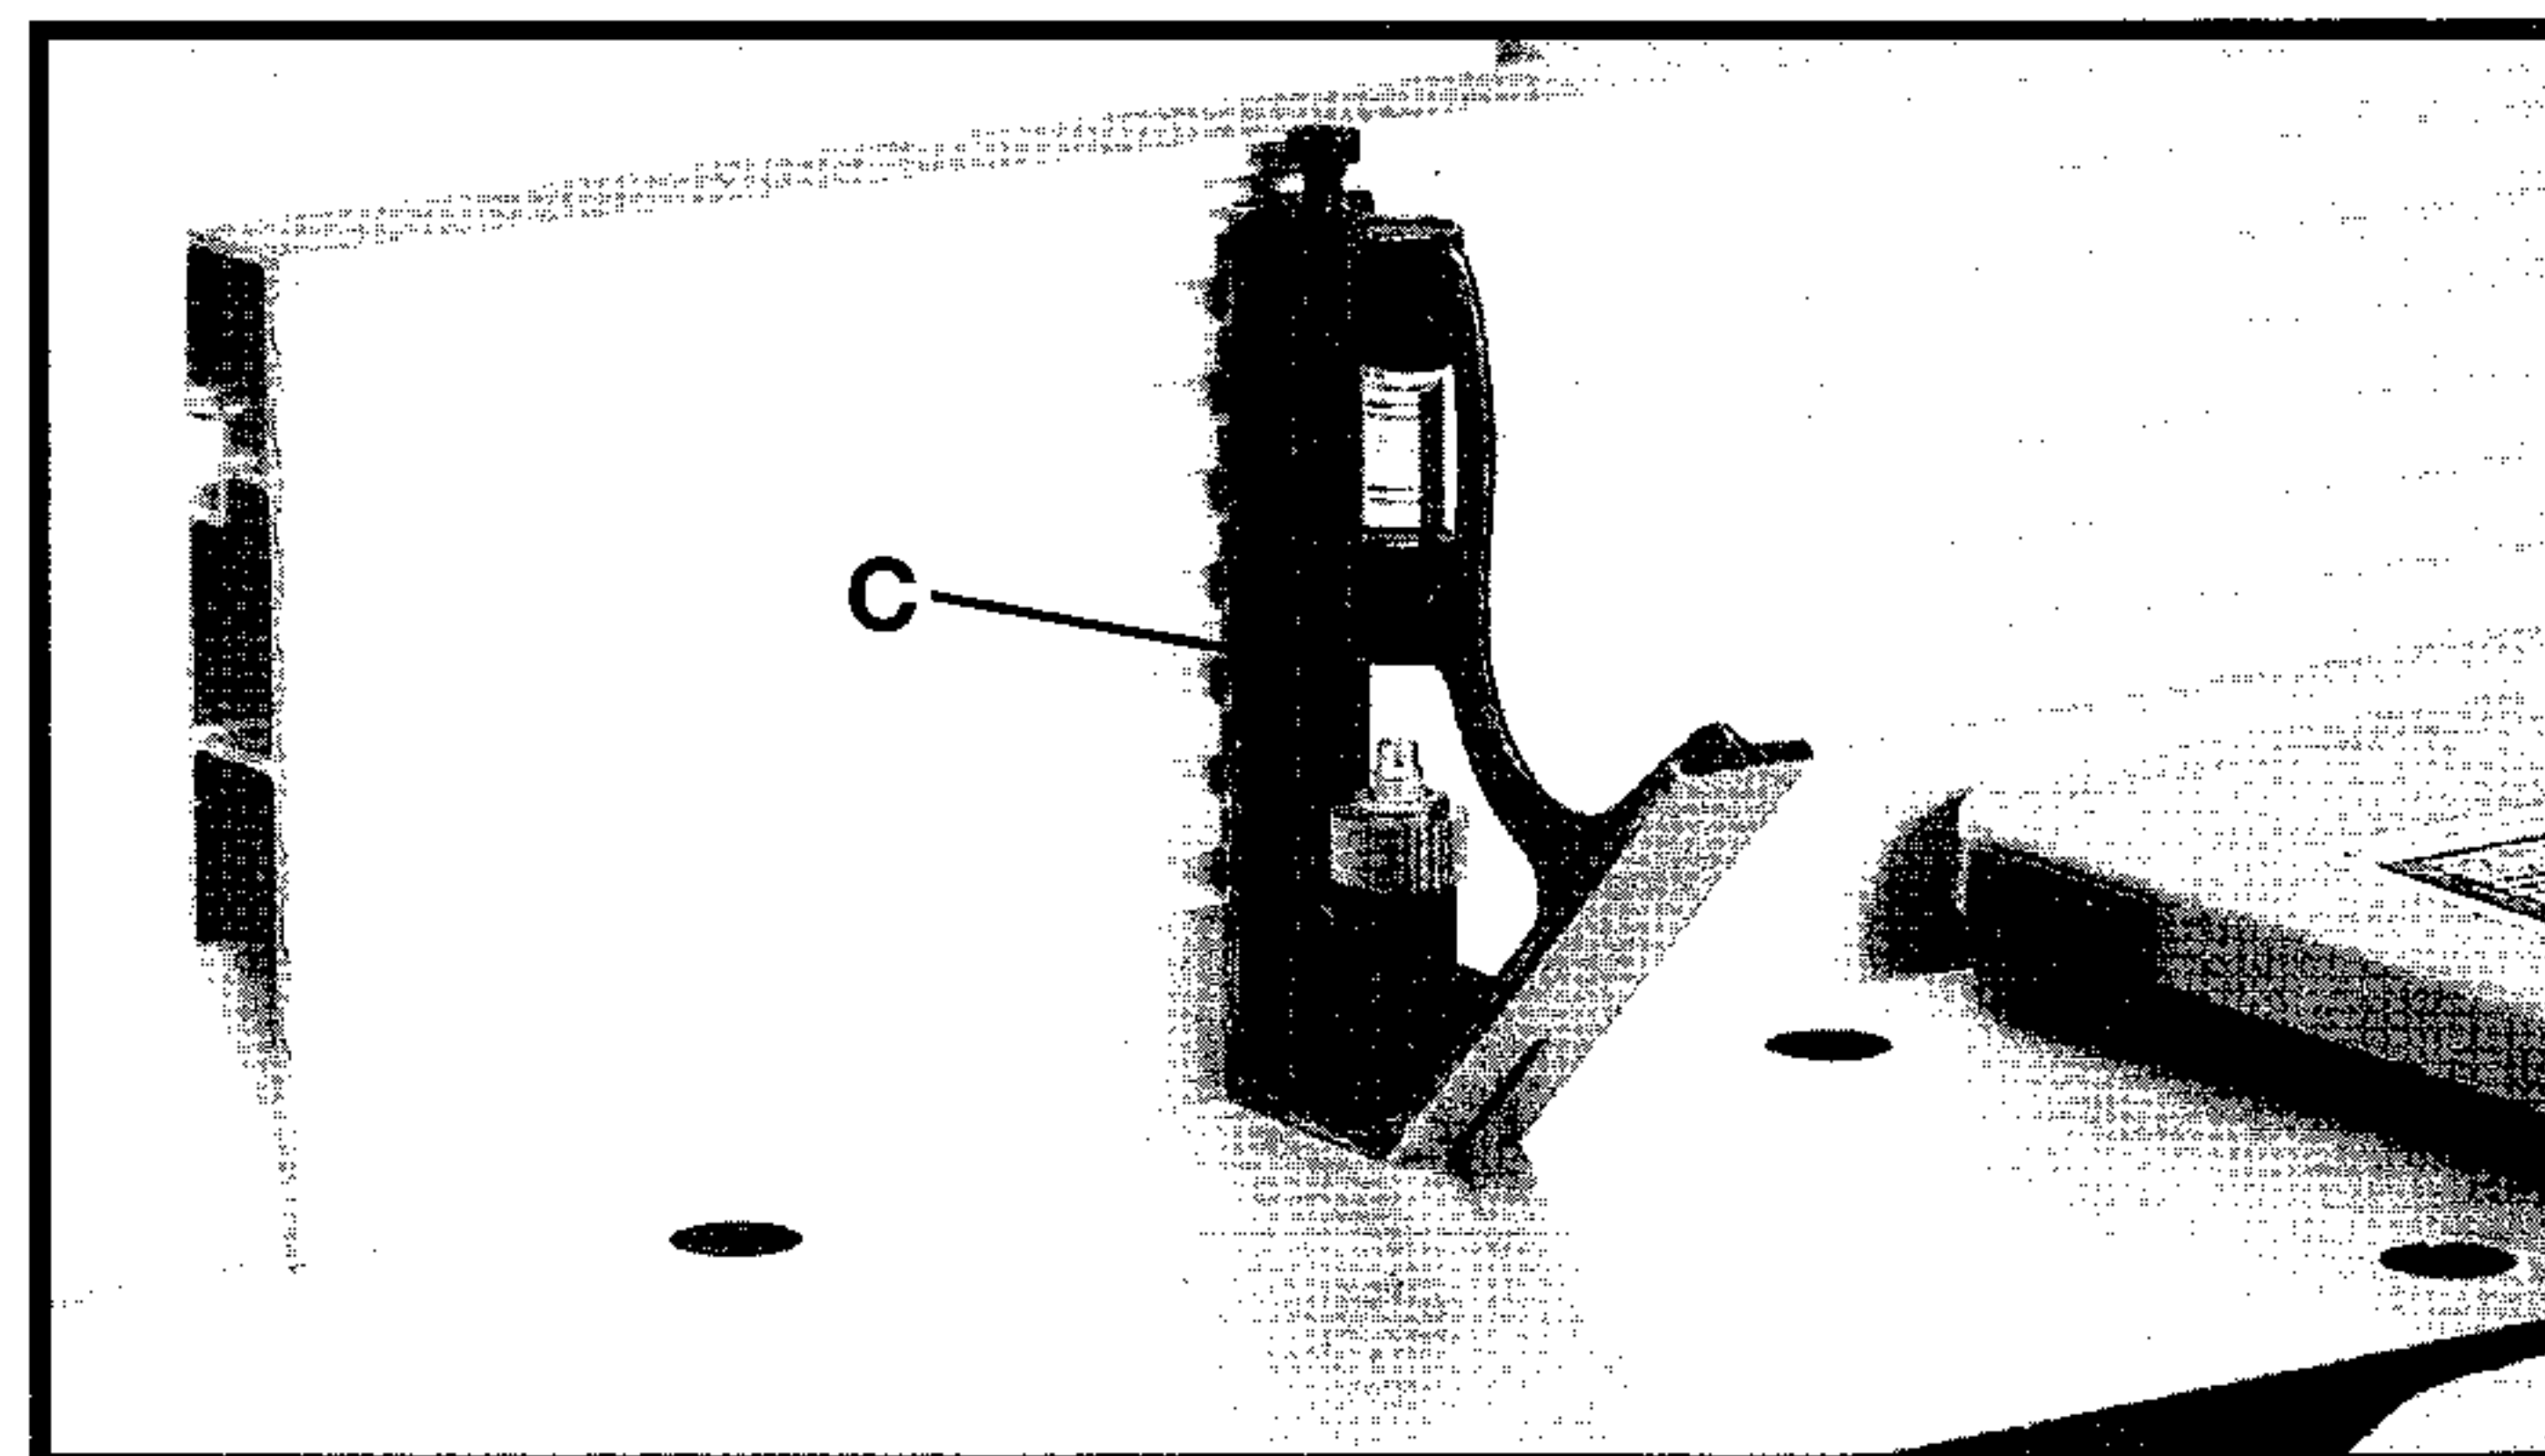

Fig. 26
4. Place a square (C) Fig. 26, on the table with one end of the square against the fence as shown. Adjust the fence until it is exactly 90 degrees to the table.